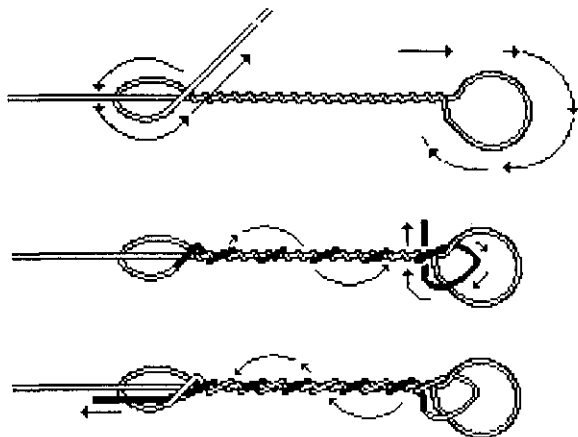

Figure 7-51 Butterfly wrap using piano wire
2. If masking the point of attachment is not a concern, a butterfly tie works ideally (Figure 7-51).